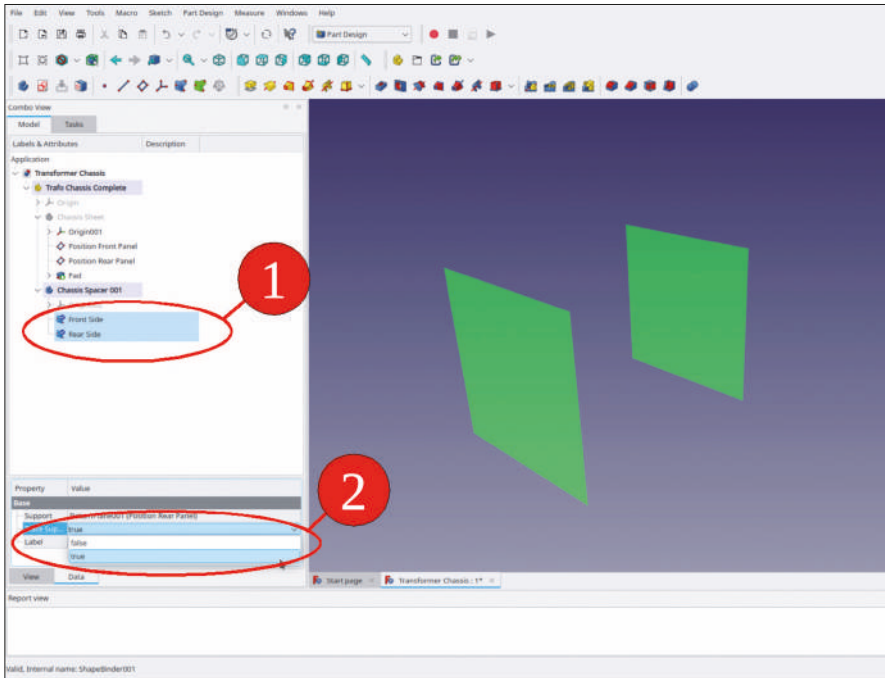

Figure 9-57
21. Mark both shape binders. In the property list, set the property 'Trace Support' to 'true' (Figure 9-57).